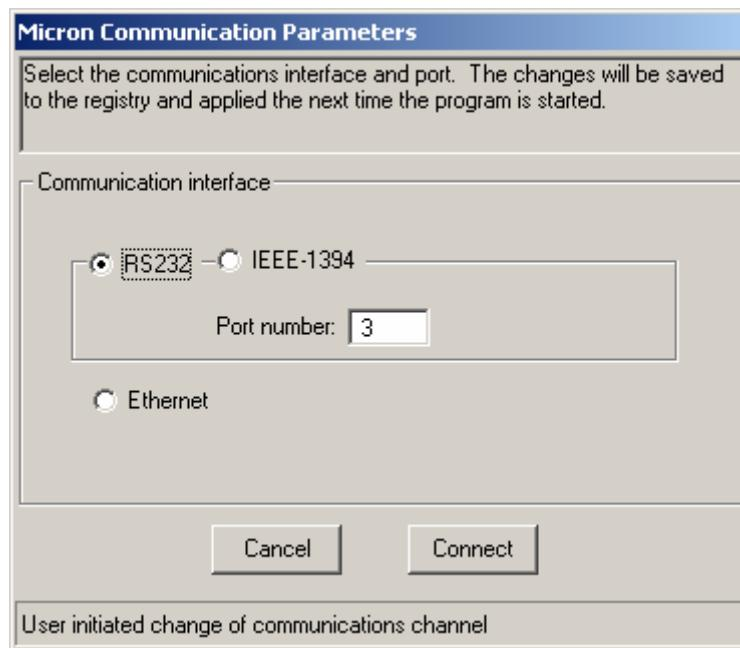

Figure 10: Control Panel Select RS232 Comm Window
6. If you see the window shown in Figure 10, verify that the camera is powered on and connected to the PC. Then select the RS232 option and appropriate COM port then hit the "Apply" button. If the Control Panel successfully links to the camera, skip ahead the section below titled "Operation of the Micron/A10 Control Panel".
14. If you see the window shown in Figure 10, verify that the Firewire Module LED is powered on and connected to the PC. Then select the IEEE-1394 Comm interface option and appropriate COM port then hit the “Apply” button. If the Control Panel successfully links to the camera, skip ahead the section below titled “Operation of the Micron/A10 Control Panel”.